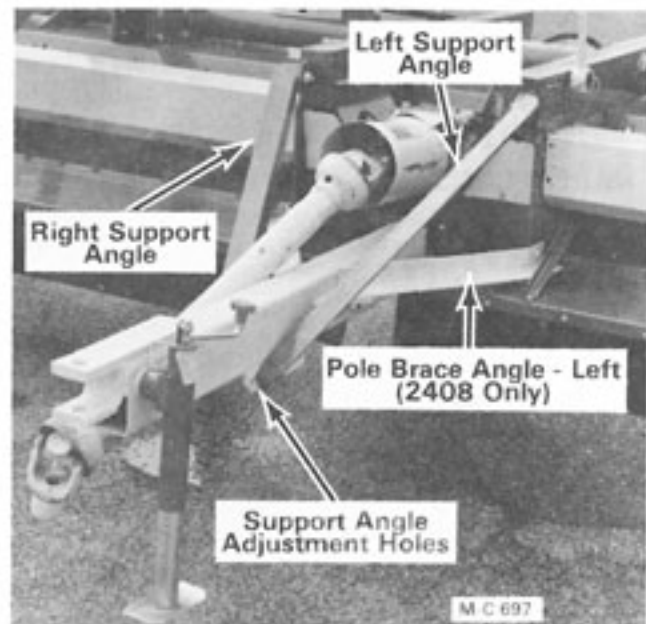

Figure 6
3. **Model 2408** - Install the pole brace angles, see Figure 6. Use $\frac{3}{4}$ "-10 x 2 $\frac{1}{2}$ " capscrews, lockwasher and nuts.